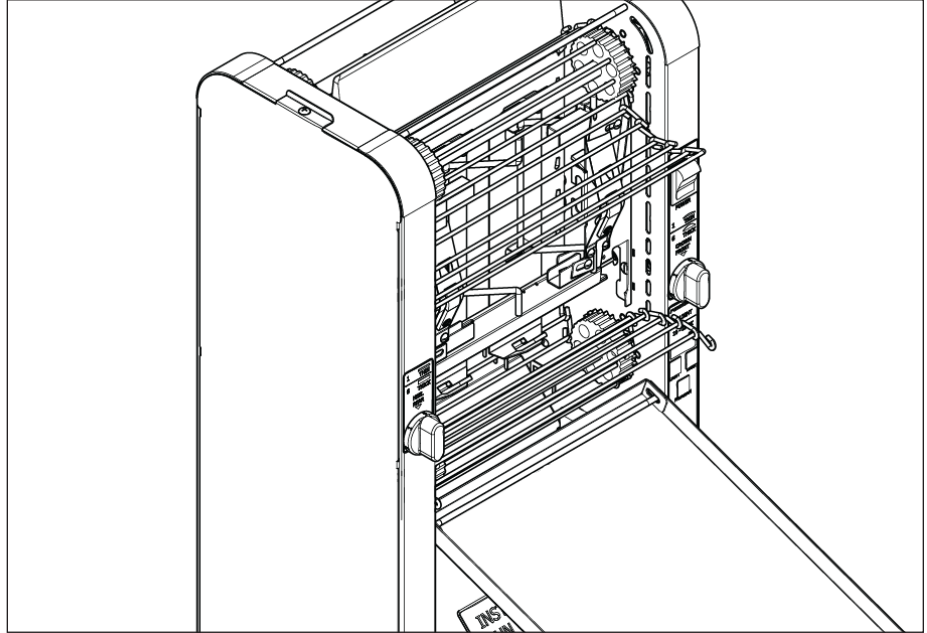

Figure 19. Disconnect Conveyor Belt chains
6. Disconnect the Conveyor Belt chains by squeezing any two links together and unhooking both ends of the one link (Figure 19). Pliers may be used. Remove the Conveyor Belt Chains and set aside.